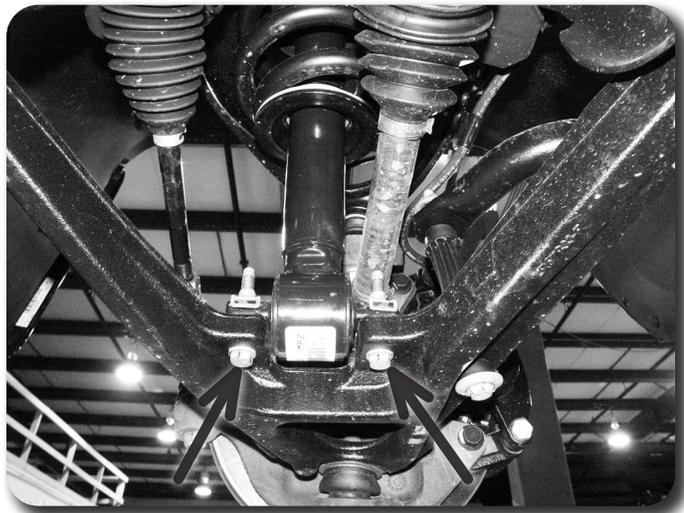

Figure 7
11. Support the lower control arm with a jack. Remove the lower strut mount bolts **Figure 7**. Save bolts.